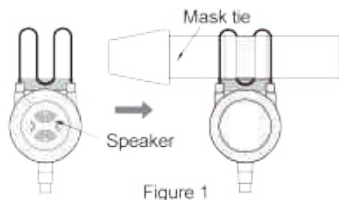

Figure 1
- 2、 Assemble the metal bracket on the upper left side of the mask as shown in Figure 1;
- 1、 The fixed bracket "L" or "R" embedded speaker groove, (only one bracket installed) Figure 1;